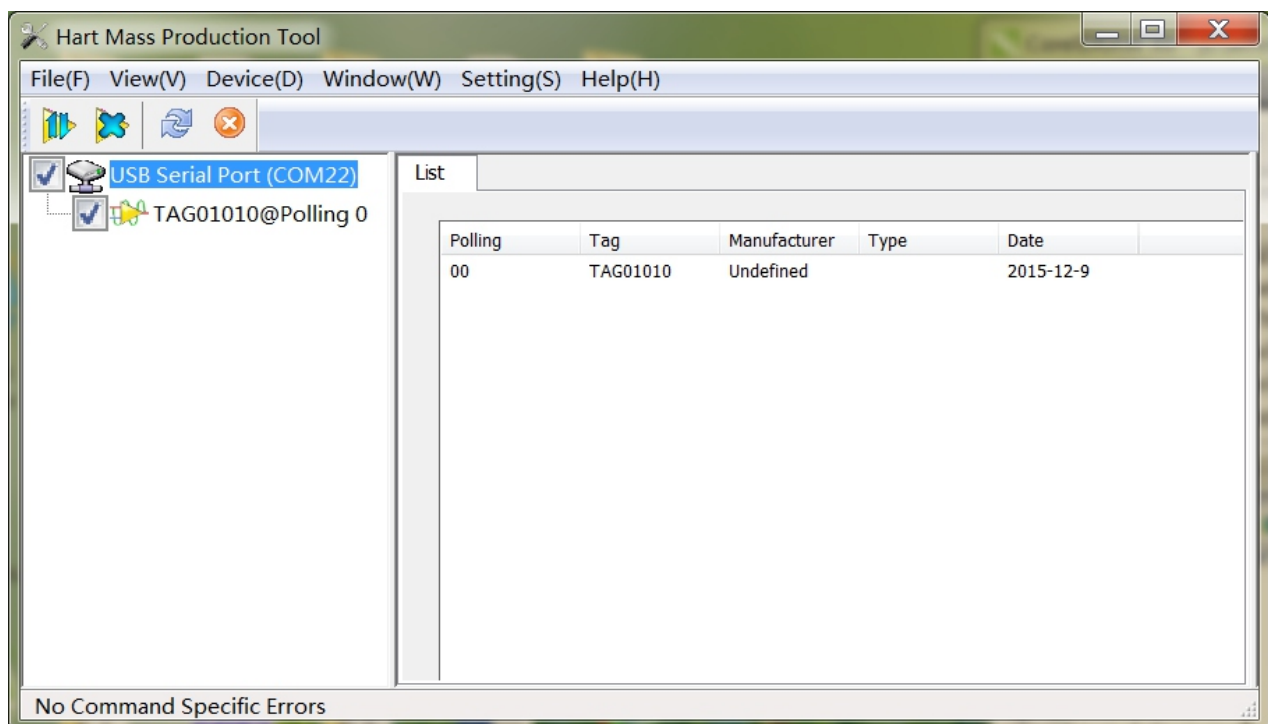

Figure 10 Device list page
2. When serial port is selected, its name and number will appear on left window. Select this serial port and right-click it, and choose “SingleNode” or “Search All”. Then configuration tool begin searching device. When searching successfully, it will be shown like figure 10. Left window shows searched device tag, and right window shows searched device list, including device tag, manufacturer, device type and delivery date.